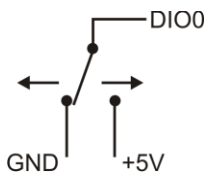

Figure 4. Schematic showing switch detection by digital channel DIO0
When you configure the digital bits for input, you can use the USB-TC digital I/O terminals to detect the state of any TTL-level input. Refer to the schematic shown in Figure 4. If you set the switch to the +5V input, DIO0 reads *TRUE* (1). If you move the switch to GND, DIO0 reads *FALSE* (0).